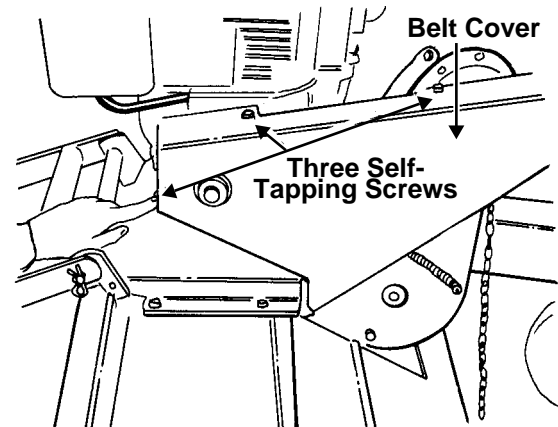

Figure 17
3. Remove the belt cover by removing three hex head self-tapping screws with a 3/8" wrench. See Figure 17.